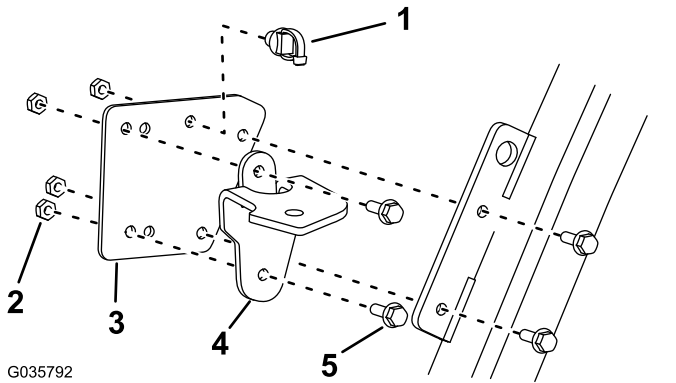

Figure 3
1. Install a tie clip to the right mount (Figure 3).
2. Install the right mount to 1 extension plate using 2 bolts and 2 nuts (Figure 3).
3. Secure the extension plate to the front, right lifting point of the cab using the 2 bolts and 2 nuts (Figure 3).